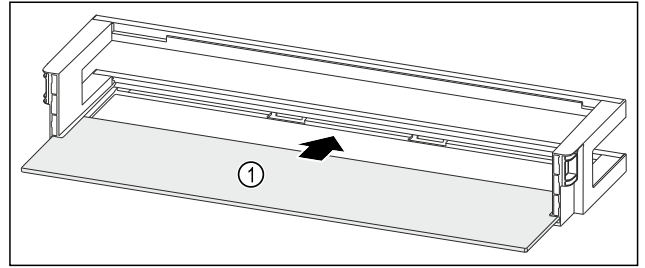

Fig. 50 Door rack with shelf
- ▶ Push the shelf Fig. 50 (1) into the side recesses.